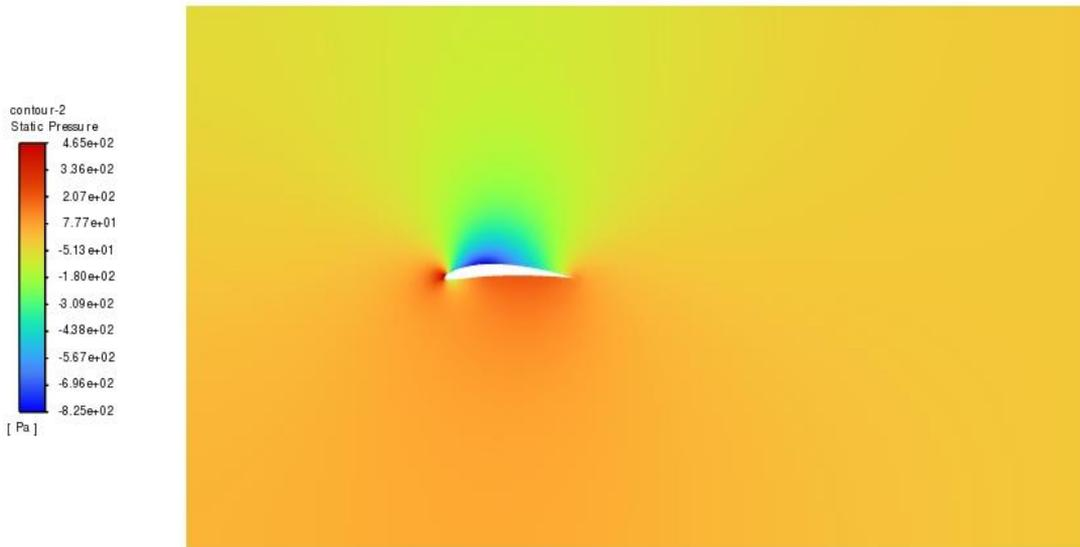

Fig 1.2 Pressure Distribution across aerofoil geometry
- The Pressure and Velocity fields across the airfoil geometry are represented in fig1.2, 1.3.